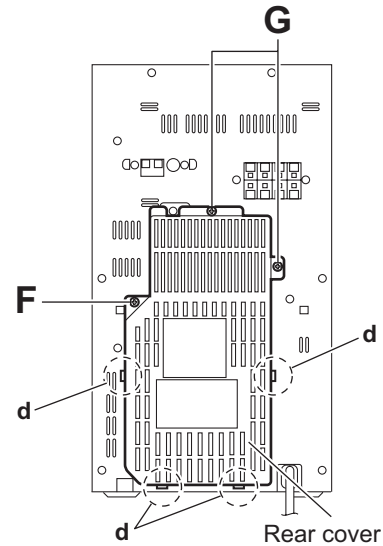

Fig.11
- (2) From the back side of the main body, remove the screw **F** and two screws **G** attaching the rear cover. (See Fig.11.)
- (3) Release the sections **d** and remove the rear cover. (See Fig.11.)